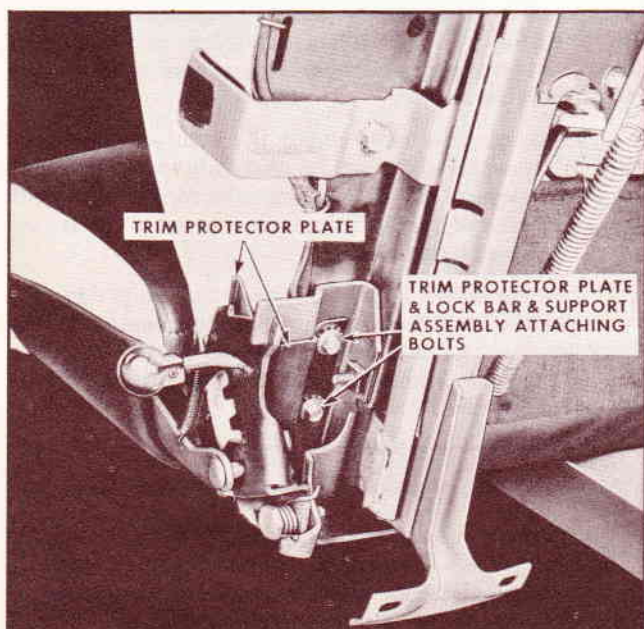

Fig. 3 Lock Bar and Support Assembly - Bottom View
4. Remove trim protector plate and lock bar and support assembly secured by four (4) bolts, shown in Figures 3 and 4.